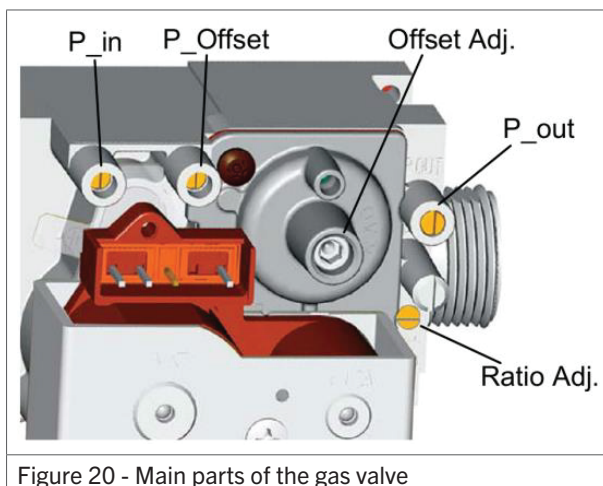

Figure 20 - Main parts of the gas valve
The gas valve is adjusted with two screws (figure 20):
**DANGER!** Always measure the air heater's CO production. Too much CO usually means the gas mixture is too rich. Adjust this if necessary with the two adjusters (figure 20). The concentration of CO should always be below 100 ppm.